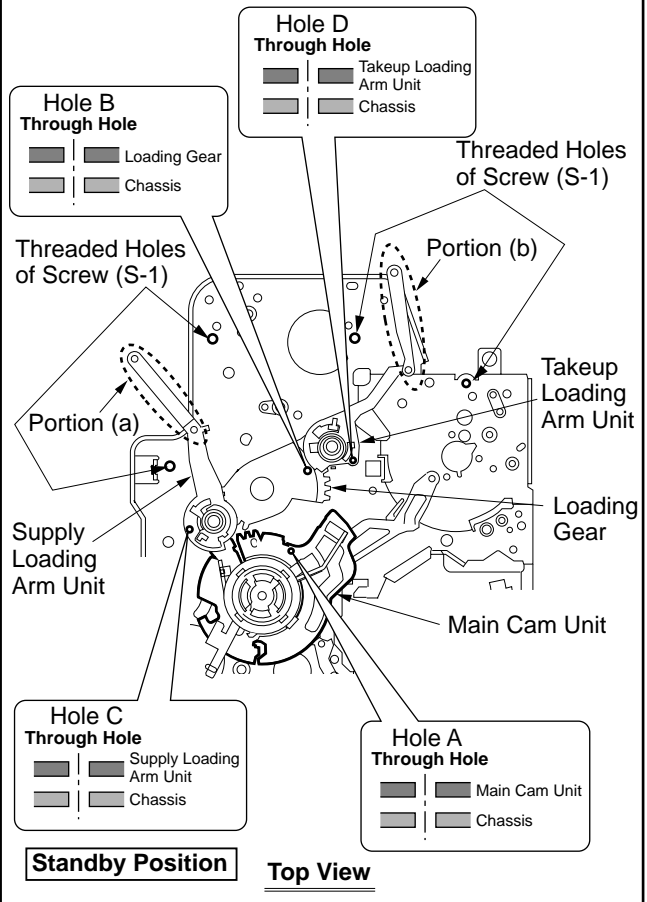
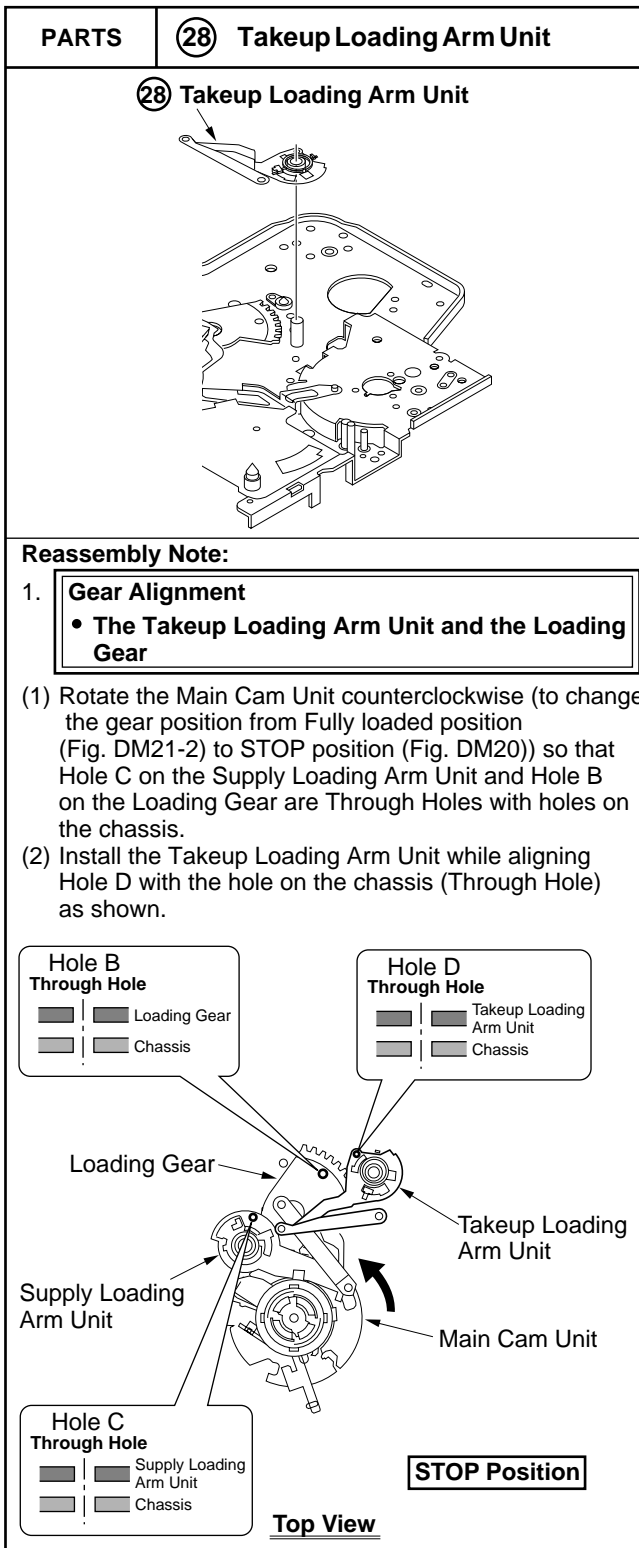

Fig. DM19-2
Fig. DM20
- Before installing the Loading Base Unit, rotate the Main Cam Unit clockwise (to change the gear position from STOP position (Fig. DM20) to Standby position (Fig. DM19-2)) so that Holes A, B, C, and D are Through Holes with holes on the chassis.